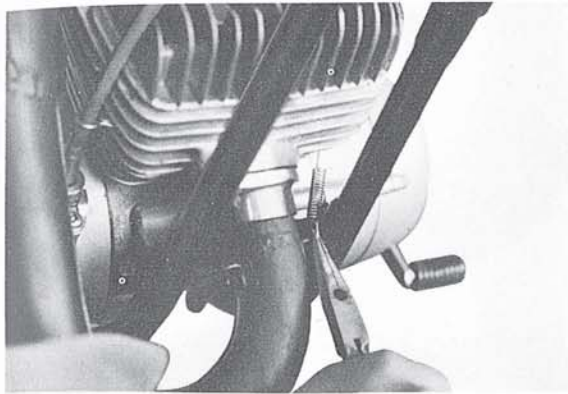

Fig. IV-1-2
- 1) Remove the two springs and two bolts. (Figs. IV-1-2 and 3)